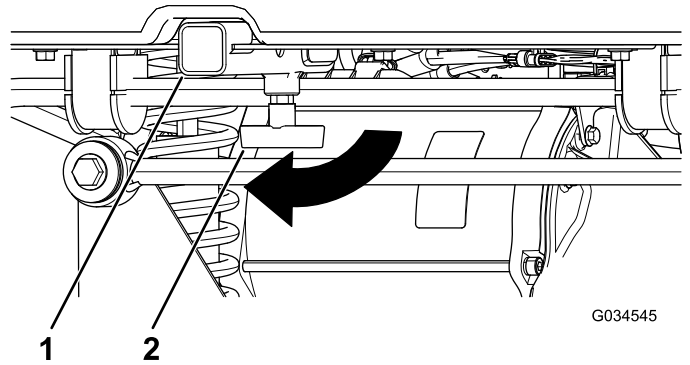

Figure 15
1. Loosen the “T” handle by rotating it clockwise (Figure 15).
2. Insert your accessory into the receiver until the accessory reaches the end of the receiver (Figure 15).